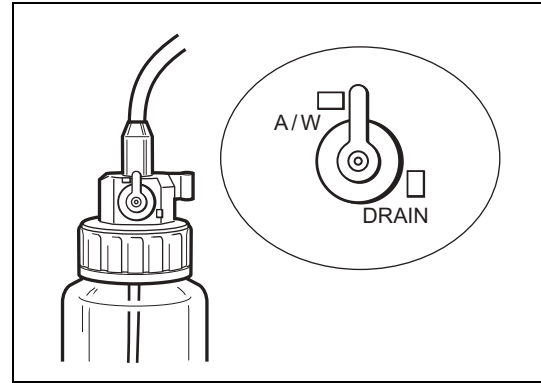

Figure 4.4
- 1 Set the A/W DRAIN lever to A/W position. (Refer to Figure 4.4)